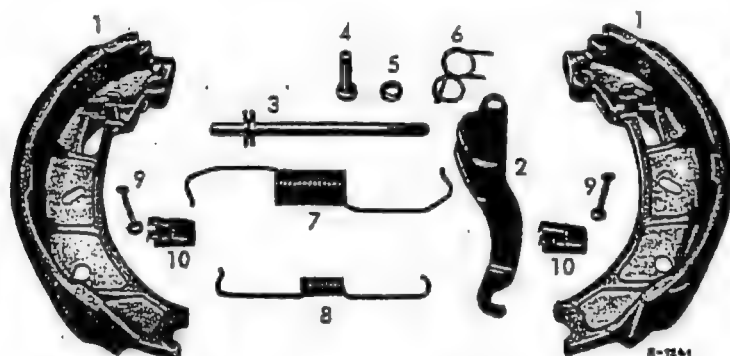

Fig. 42-9/9
- Remove the cotter pin from the collar bolt (4). Take the collar bolt out of the brake shoe paying attention to the sleeve (5) and the return spring (6). Remove the brake lever with push rod and return spring (Fig. 42-9/9).
- Screw the push rod (3) out of the brake lever (2). Remove the upper return spring (7) from the push rod (Fig. 42-9/9).